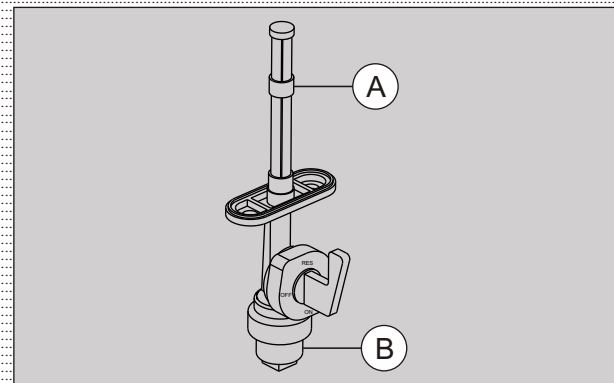

Fig. 4.9
- Filter (A) is fixed to the fuel cock assembly and inserted to the fuel tank complete, that facilitates the main and reserve level. (Fig. 4.9)
- The fuel cock assembly is also provided with a cup fuel strainer (B) and a filter. The cup fuel strainer collects the impurities and therefore must be periodically checked and cleaned. (Fig. 4.9)